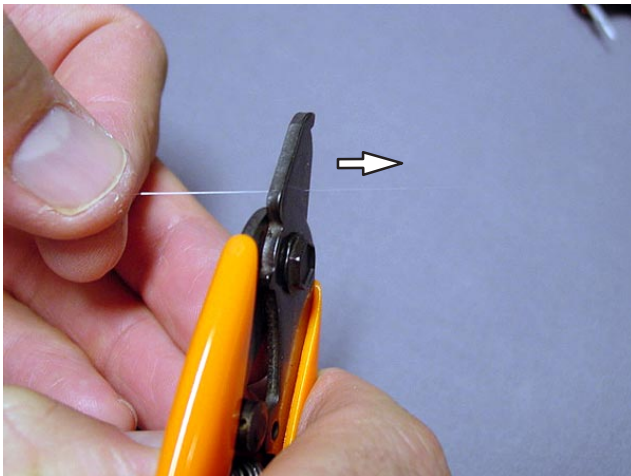

Figure 35
7. Using the combination strip tool, strip the coating off approximately 25 mm [1.0 in.] of the coating. Repeat for the second end. See Figure 35.